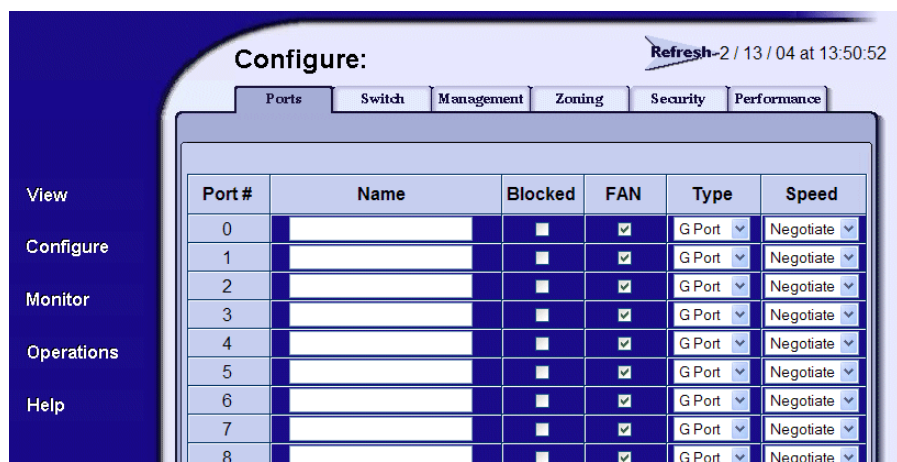

Figure 4: Configure Ports tab view
2. At the EWS screen, choose **Configure** from the navigation panel. The **Configure** page and the **Ports** tab view display (Figure 4).